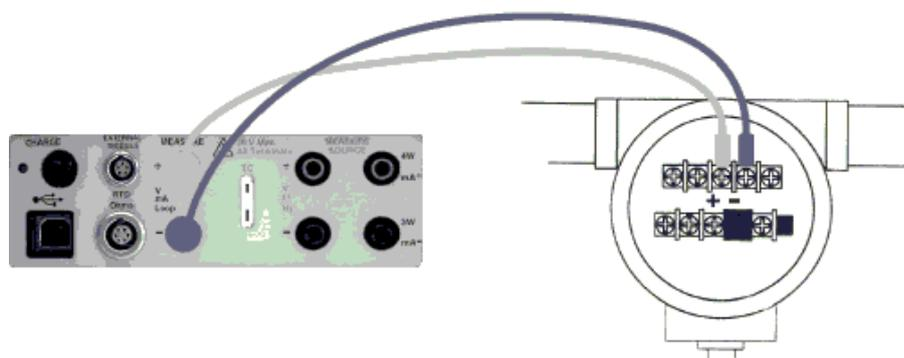

Figure 17: Connection Using Current Loop
- Connect the calibrator to transmitter current loop terminals (shown in Figure 17).